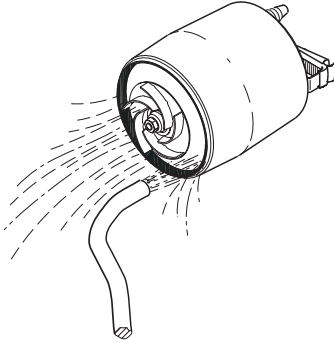

Fig. 13
- Clean and flush the pump with water to remove possible impurities between the motor and the outer casing. Clean the impeller, see fig. 13.